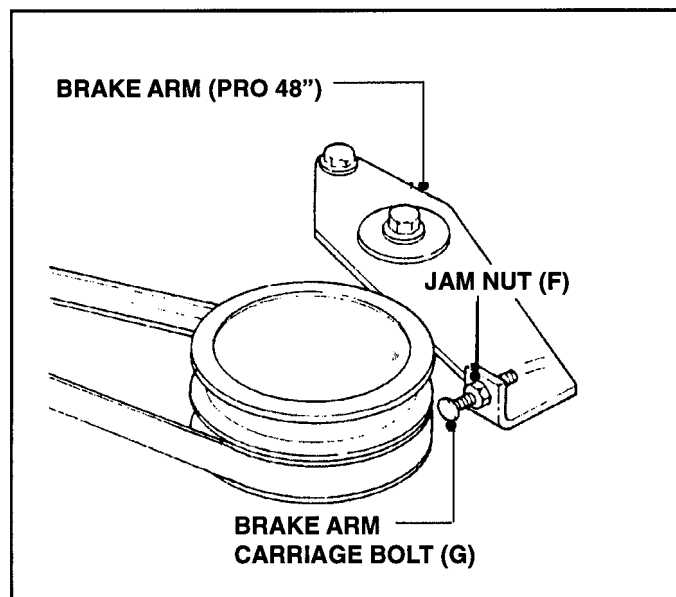

FIGURE 5.15
- Loosen Jam Nut (F) on Brake Arm Carriage Bolt. See Figure 5.15.